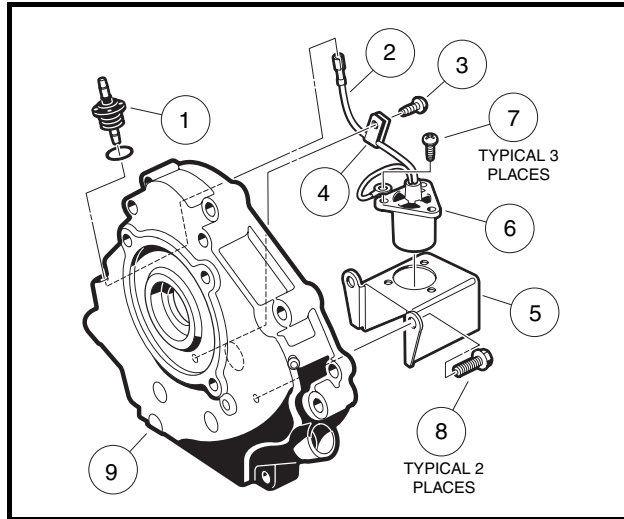

Figure 13-5 Oil Level Sensor
2. Disconnect the oil level sensor wire (2) from the cord connector (1) (Figure 13-5, Page 13-6).
3. Remove the screw (3) from the wire clamp (4).
5. If necessary, remove the three screws (7) that hold the sensor to the bracket (5).
1. If the oil level sensor was removed from the bracket, install sensor (6) into bracket (5) and secure with three screws (7) (**Figure 13-5, Page 13-6**). Tighten to 17 in-lb (1.9 N·m).
3. Connect sensor wire (2) to cord connector (1) (**Figure 13-5, Page 13-6**).
4. Install screw (3) through wire clamp and into crankcase cover. Tighten to 30 in-lb (3.4 N·m).